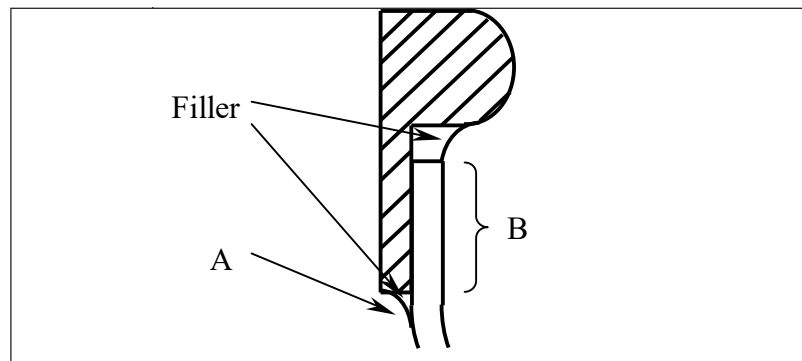

Figure 5 Canopy Adhesive Reminders
- 20 Sand down (using Scotch Brite Handpad Fine) a small area around the outside edge between canopy frame and canopy glass (area A in figure 5).